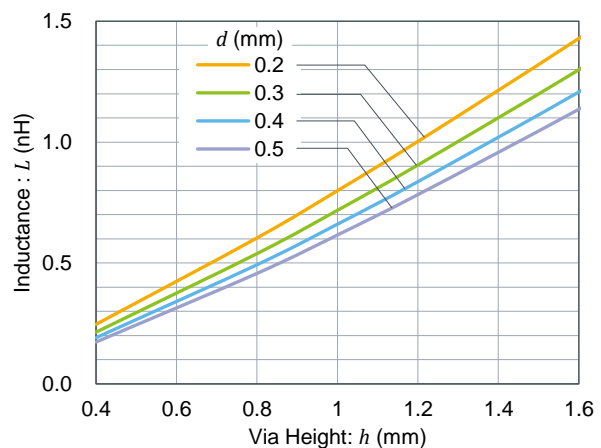

Figure 15. Via inductance
The anode side of the diode is connected to the ground plane through the via. However, the via also has a parasitic inductance. The inductance value can be estimated with Equation (3). Typical calculation results are shown in Figure 15. The value can be decreased by arranging several vias.